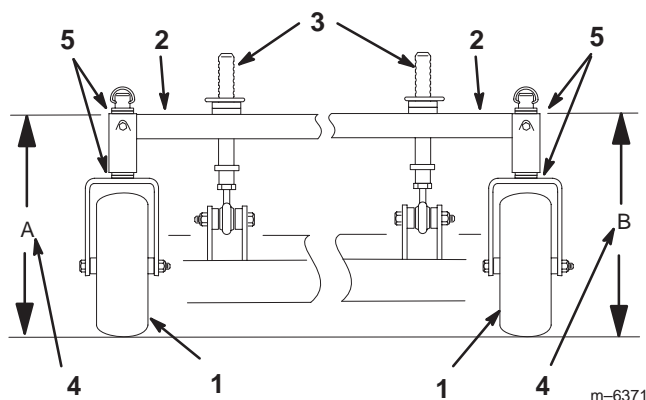

Figure 53
4. Measure carrier frame height at location **A** (Fig. 53).
5. Measure carrier frame height at location **B** (Fig. 53).